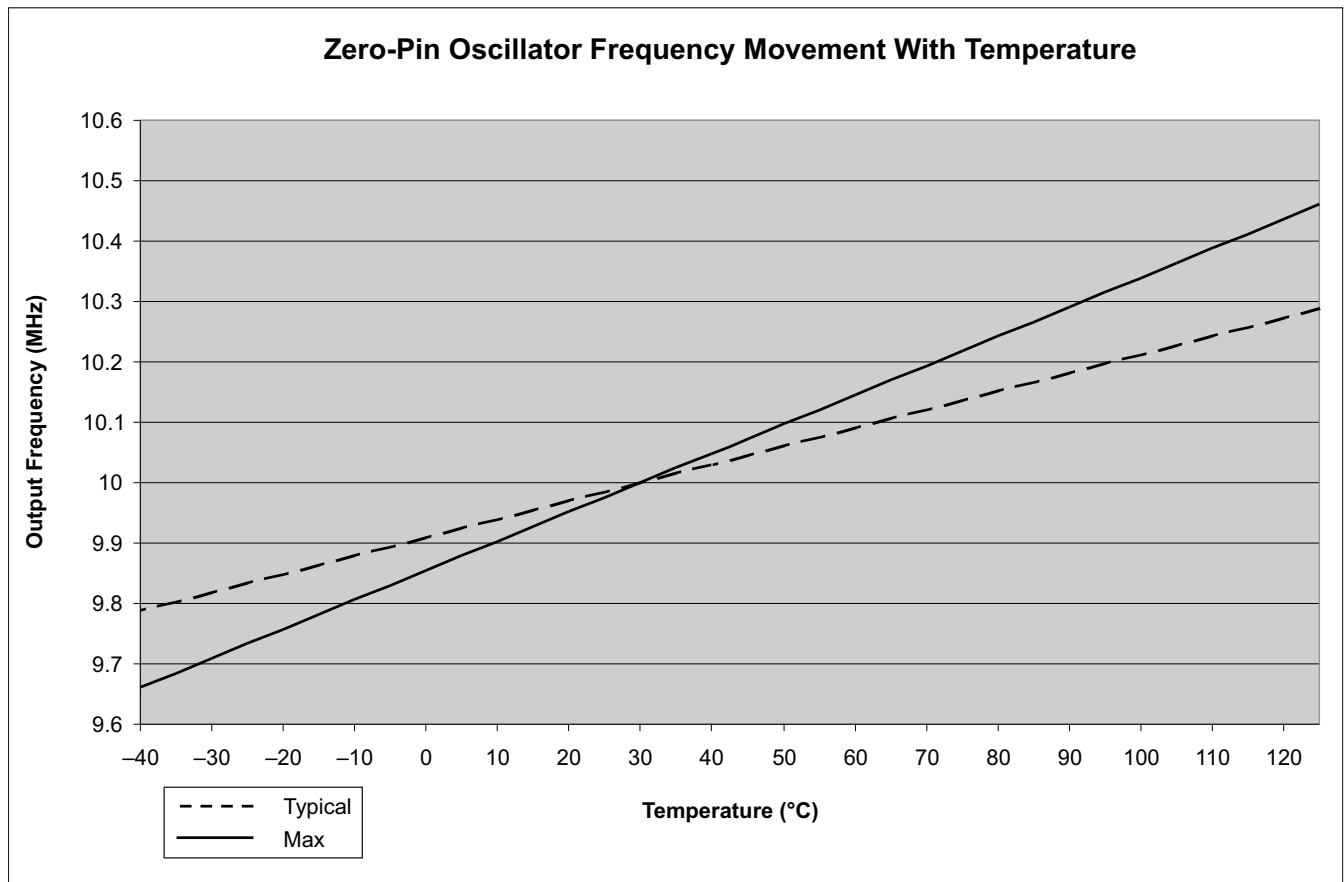

Figure 5-8. Zero-Pin Oscillator Frequency Movement With Temperature
- (1) Oscillator frequency will vary over temperature, see Figure 5-8. To compensate for oscillator temperature drift, see the Oscillator Compensation Guide and the controlSUITE™ example, Example_2802xOscComp.c.
- (2) Frequency range ensured only when VREG is enabled, VREGENZ = V_{SS}.
- (3) Output frequency of the internal oscillators follows the direction of both the temperature gradient and voltage (V_{DD}) gradient. For example: